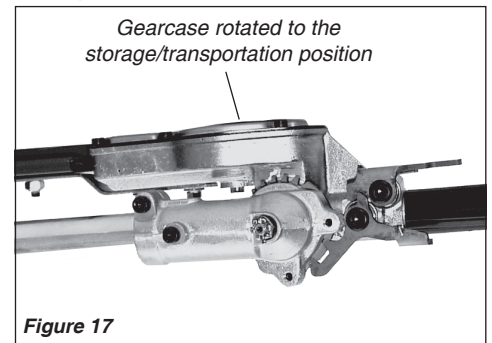

Figure 17
2. Using the procedures described on the previous page, rotate the cutter assembly so it is parallel to the tube. Make sure the latch lock and the latch release return securely to a locking position. See Figure 17.